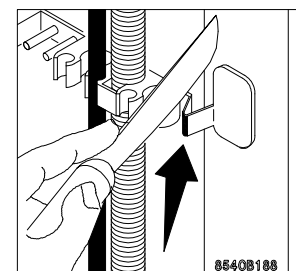

Fig. 6
- If you want to keep the alignment of your appliance with the adjacent cupboards, you have the possibility to cut the crossbar holding the hoses located at the back of your washing machine (fig. 6).